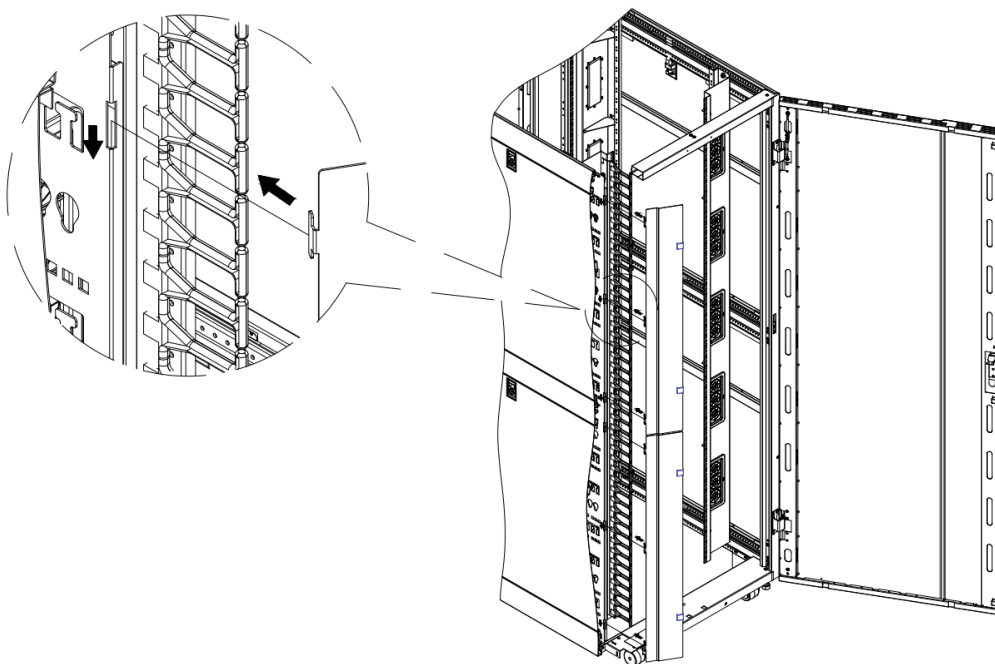

Figure 6.5.8
- (Only for the Pro Version) Hang covers (⑥) into the hinge holes of the lashing panel. (Figure 6.5.8)